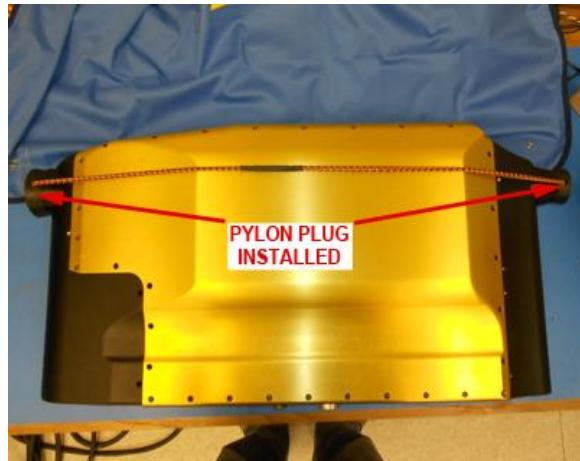

Figure 2.6.1.
1. Place the pylon plug over the inlet and outlet of the 3V-CPI pylon to keep dust out during shipping (**Figure 2.6.1**).